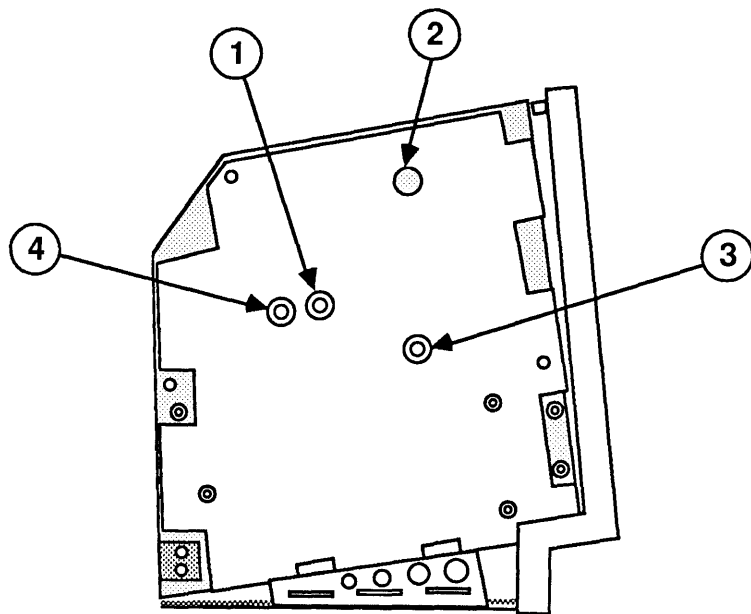

FIGURE 2
6. Adjust the brightness control (Figure 2, #1) with the alignment tool: turn it fully counterclockwise so that white lines are visible on the screen. Then turn it back in the opposite direction until the white lines just disappear.
8. Use the plastic alignment tool to adjust the width (Figure 2, #2) until the picture is approximately 7 inches wide.
9. Use the plastic alignment tool to adjust the height (Figure 2, #3) until the picture is approximately 4.7 inches high.
10. Turn the focus adjustment (Figure 2, #4) all the way clockwise until it doesn't turn anymore. Now turn it back in the opposite direction (counterclockwise) one-eighth of a turn. This setting gives the best overall sharpness at all points on the screen.